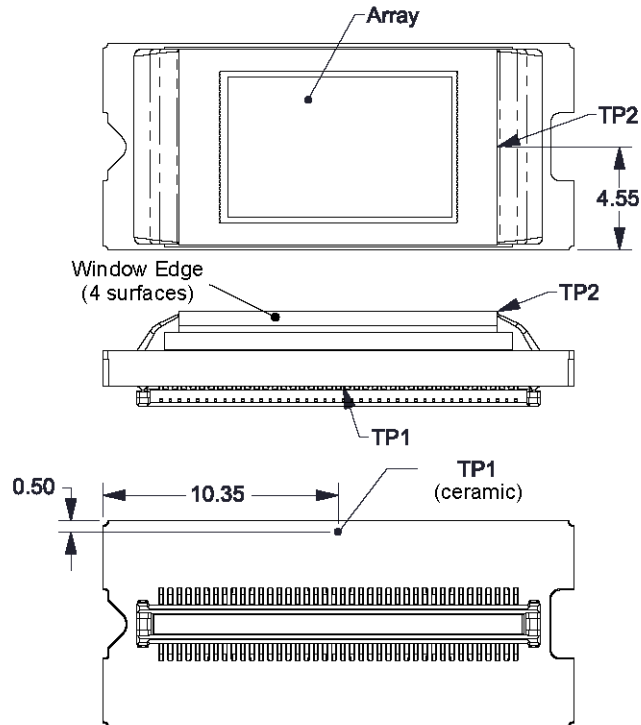
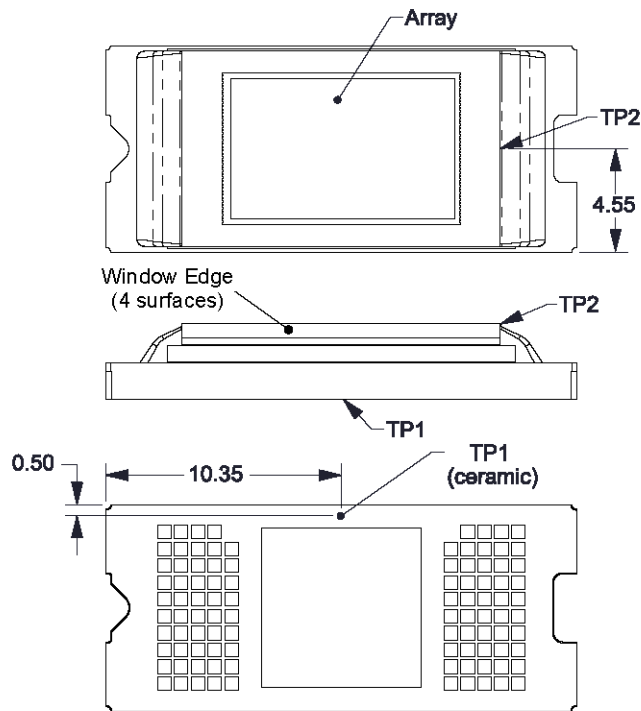

Figure 9. Thermal Test Point Location - FQE Package
Figure 10. Thermal Test Point Location - FQD Package
The DMD is designed to conduct the absorbed and dissipated heat back to the package where it can be removed by an appropriate thermal management system. The thermal management system must be capable of maintaining the package within the specified operational temperatures at the Thermal test point location, see Figure 9. The total heat load on the DMD is typically driven by the incident light absorbed by the active area; although other contributions can include light energy absorbed by the window aperture, electrical power dissipation of the array, and/or parasitic heating.
The temperature of the DMD case can be measured directly. For consistency, a thermal test point location TP1 representing the case temperature is defined as shown in Figure 9 and Figure 10.
- Thermal test point location (see Figure 9 or Figure 10)